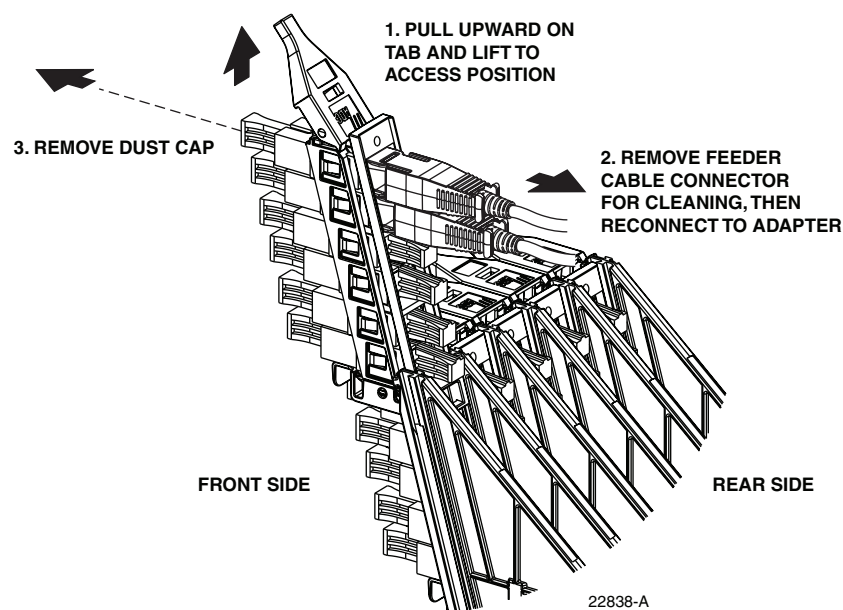

Figure 44. Adapter Pack Raised to Access Position
2. Pull upward on the small tab on top of the adapter pack and lift the adapter pack to the position shown in Figure 44